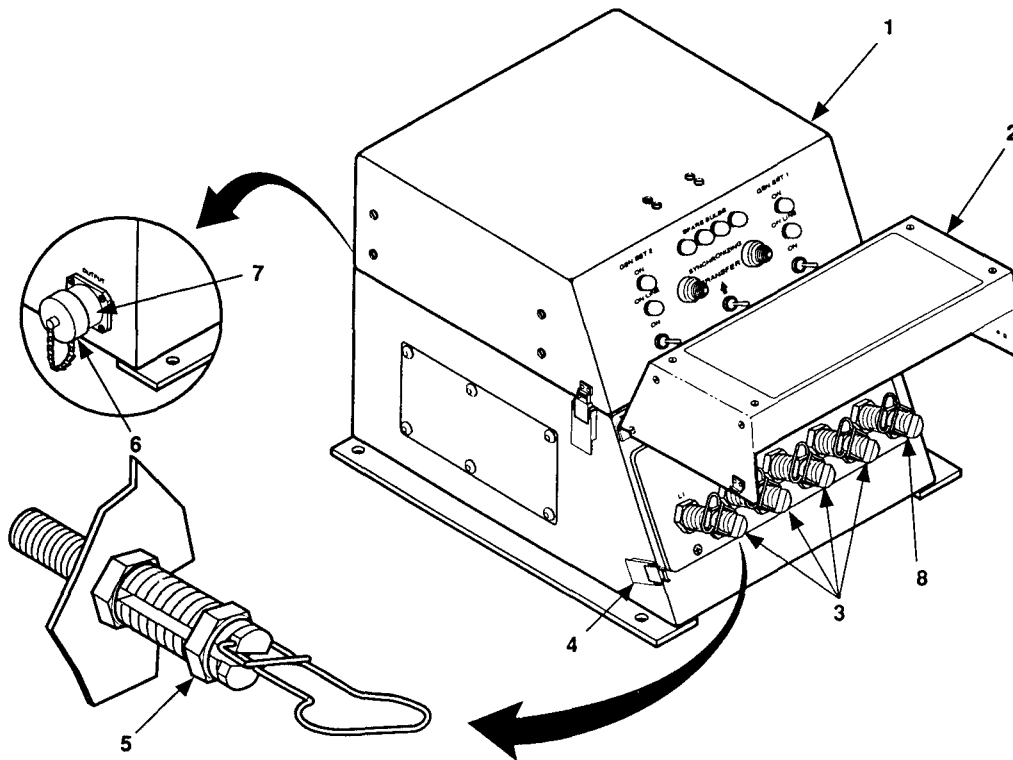

Figure 2-8. Switch Box Load Cable Connections.
**2-3.4.1 Power Plant.** Load cables and instructions for connecting them are normally furnished with the equipment that is to be supplied with electric power. The load may be connected to the switch box (1, figure 2-8) by either of two arrangements. One way is to connect a load cable to the switch box output connector (7). The other way is to connect load cables to the switch box load terminals (3). Before connecting the load, determine voltage requirements of the system or equipment that is to receive electric power.
- a. Remove cap (6, figure 2-8) from output connector (7).
- b. Connect load cable to output connector (7).
- a. Release both clamping catches (4, figure 2-8) and raise load terminal cover (2).